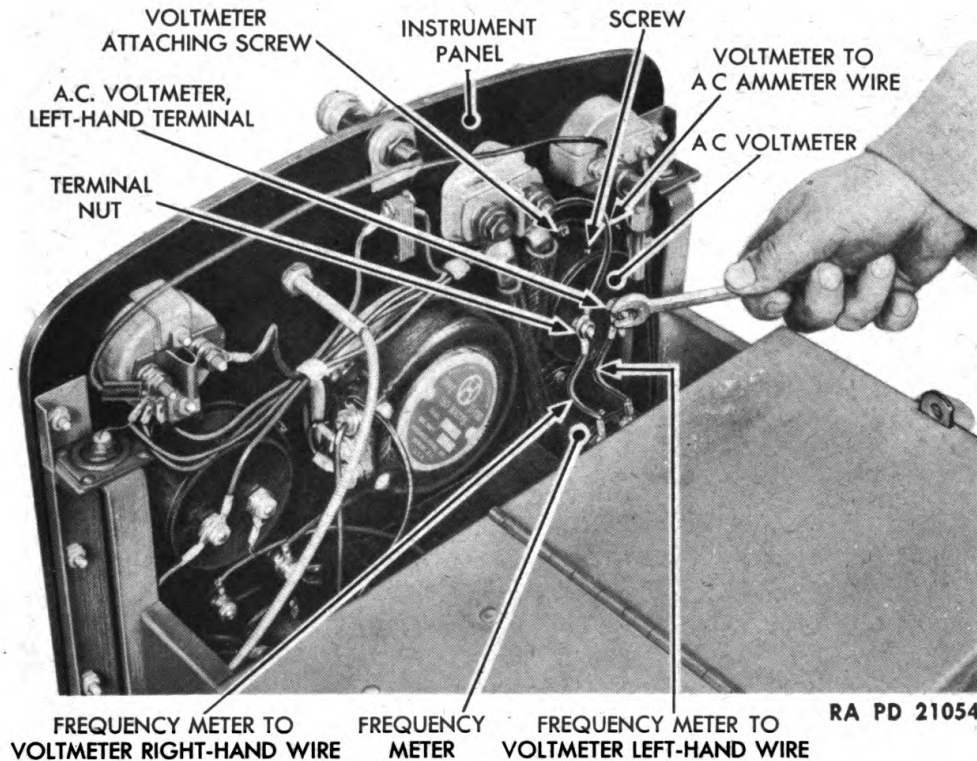

Figure 42 – A-C Voltmeter Removal
(1) Disconnect the wires attached to the terminals at the back of the instrument (fig. 42).
(2) Remove the three screws and nuts securing the instrument to the instrument panel and lift out instrument from the front of the panel.